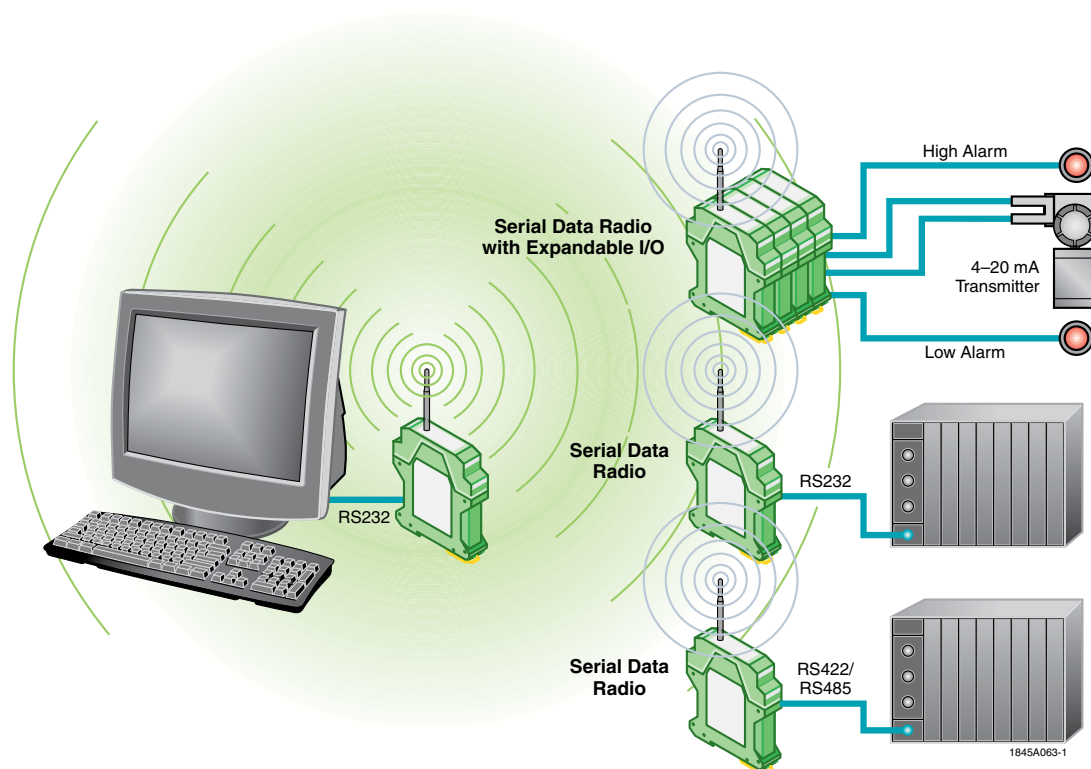

Figure 5-3. Configuration Showing Master PLC, Master Radio, and Master Radio with Expansion I/O
PLC Emulation refers to each slave transceiver emulating either an Allen-Bradley (AB) Micrologix PLC or a Modicon PLC. Specifically, the transceivers will understand commands in either DF1 protocol for AB or Modbus RTU protocol for a Modicon PLC. In this mode, the master PLC controls all commands and initiates all requests for data. The master PLC does not realize that it is communicating with a radio, as the radio simulates a slave PLC. See Figure 5-3. Analog and Discrete I/O module(s) need to be connected to each slave transceiver. The analog/discrete values are represented as registers. By using a request command (Modbus) or a message instruction (AB), you can read and write to registers on each slave radio. Optionally, a PLC could be connected to a slave radio, such that some slaves could have I/O modules connected, whereas others could have slave PLCs connected. Each radio and/or PLC must have a different PLC address. A PLC address can be programmed into each slave radio through the RAD-Link software or by DIP switches. A slave radio can also function as a repeater for a more distant slave radio(s). Refer to Section 4, Paragraph 4.6.5 for programming information.